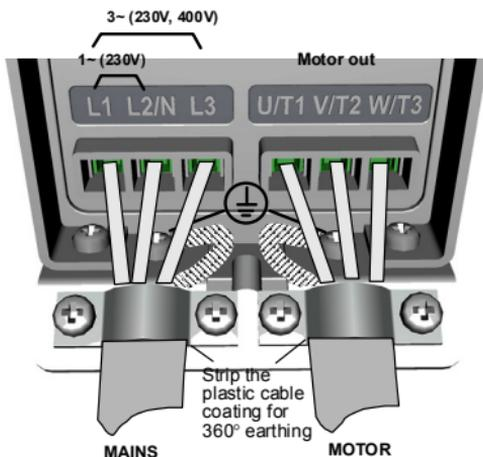
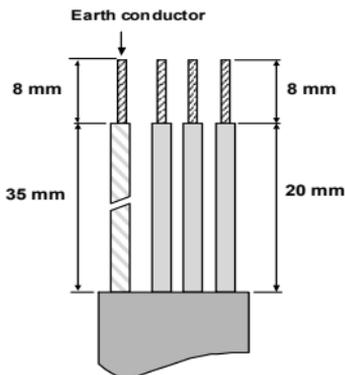

Figure 3.17: Vacon 20 power connections, MI1
Figure 3.31: Stripping of cables
4	<p>Connecting the cables:</p> <ul style="list-style-type: none"> <li>• Strip the motor and mains cables as advised in Figure 3.31.</li> <li>• Connect the mains, motor and control cables into their respective terminals, see Figures 3.17 - 3.26.</li> <li>• Note the tightening torques of power cables and control cables given in chapter 3.2.1 and 3.2.2.</li> <li>• For information on cable installation according to UL regulations see Chapter 3.2.8.</li> <li>• Make sure that the control cable wires do not come in contact with the electronic components of the unit.</li> <li>• If an external brake resistor (option) is used, connect its cable to the appropriate terminal.</li> <li>• Check the connection of the earth cable to the motor and the frequency converter terminals marked with</li> </ul> <div style="text-align: center;">  </div> <ul style="list-style-type: none"> <li>• Connect the separate shield of the motor cable to the earth plate of the frequency converter, motor and the supply centre.</li> </ul>
**Note!** Strip also the plastic cover of the cables for 360 degree earthing. See Figures 3.17, 3.18 and 3.25.